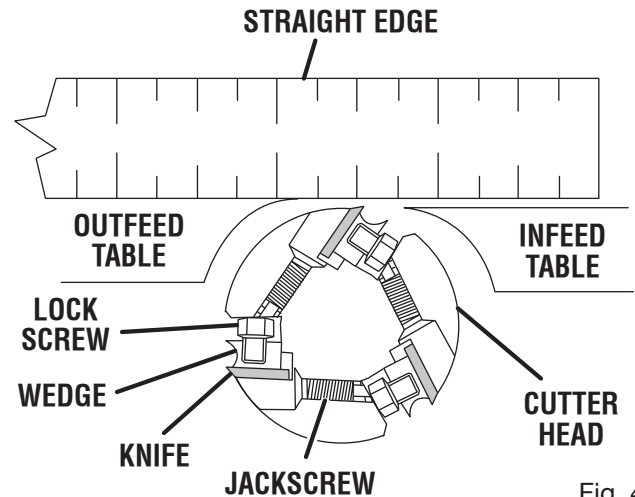

Fig. 40
See Figures 40 - 41.
**NOTE:** Please refer to figure 40 when reinstalling knives.